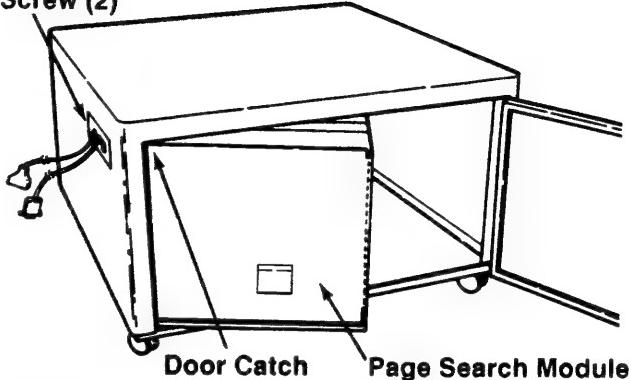

Figure 2-3.1D
7. Feed the Cable Harnesses through the port on the left side of the Workstation (Figure 2-3.1D).
8. Move the front end of the Page Search Module all the way to the left first placing the Left Frame behind the Door Catch (Figure 2-3.1D) then push the rear to the left.
9. Loosely install two 8-32 x 1/2 in. Pan Head Taptite Screws (item 2) through the left side of the Workstation into the Page Search Module (Figure 2-3.1D).